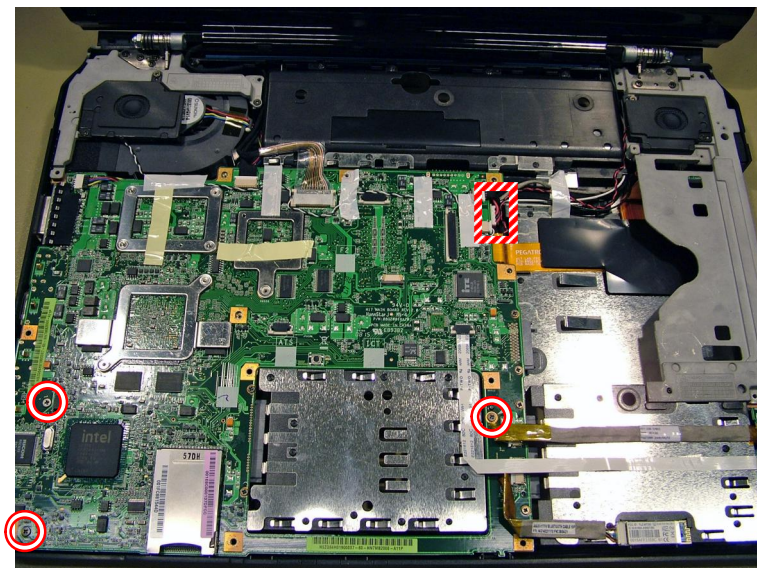

Fig. 27 Location of main board screws and DC jack header.
7. Remove the three screws securing the main board (see Fig. 27 on page 16).
1. Disconnect the DC jack cable from the header on the main board (see Fig. 27 on page 16).